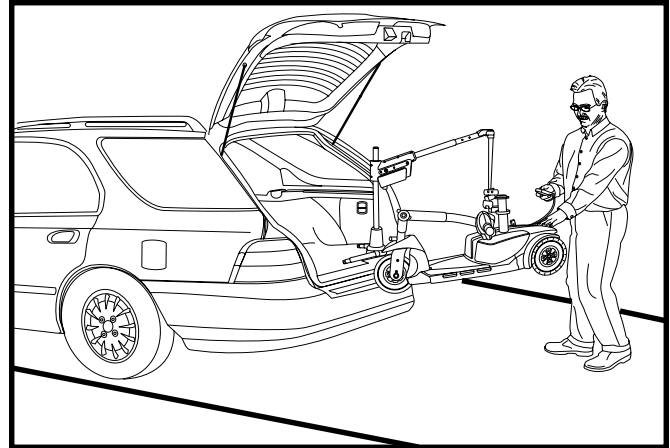

Figure 17. Lifting The Mobility product
9. Once the mobility product is raised high enough to fit into the vehicle, stop the lift. **See figure 17.**